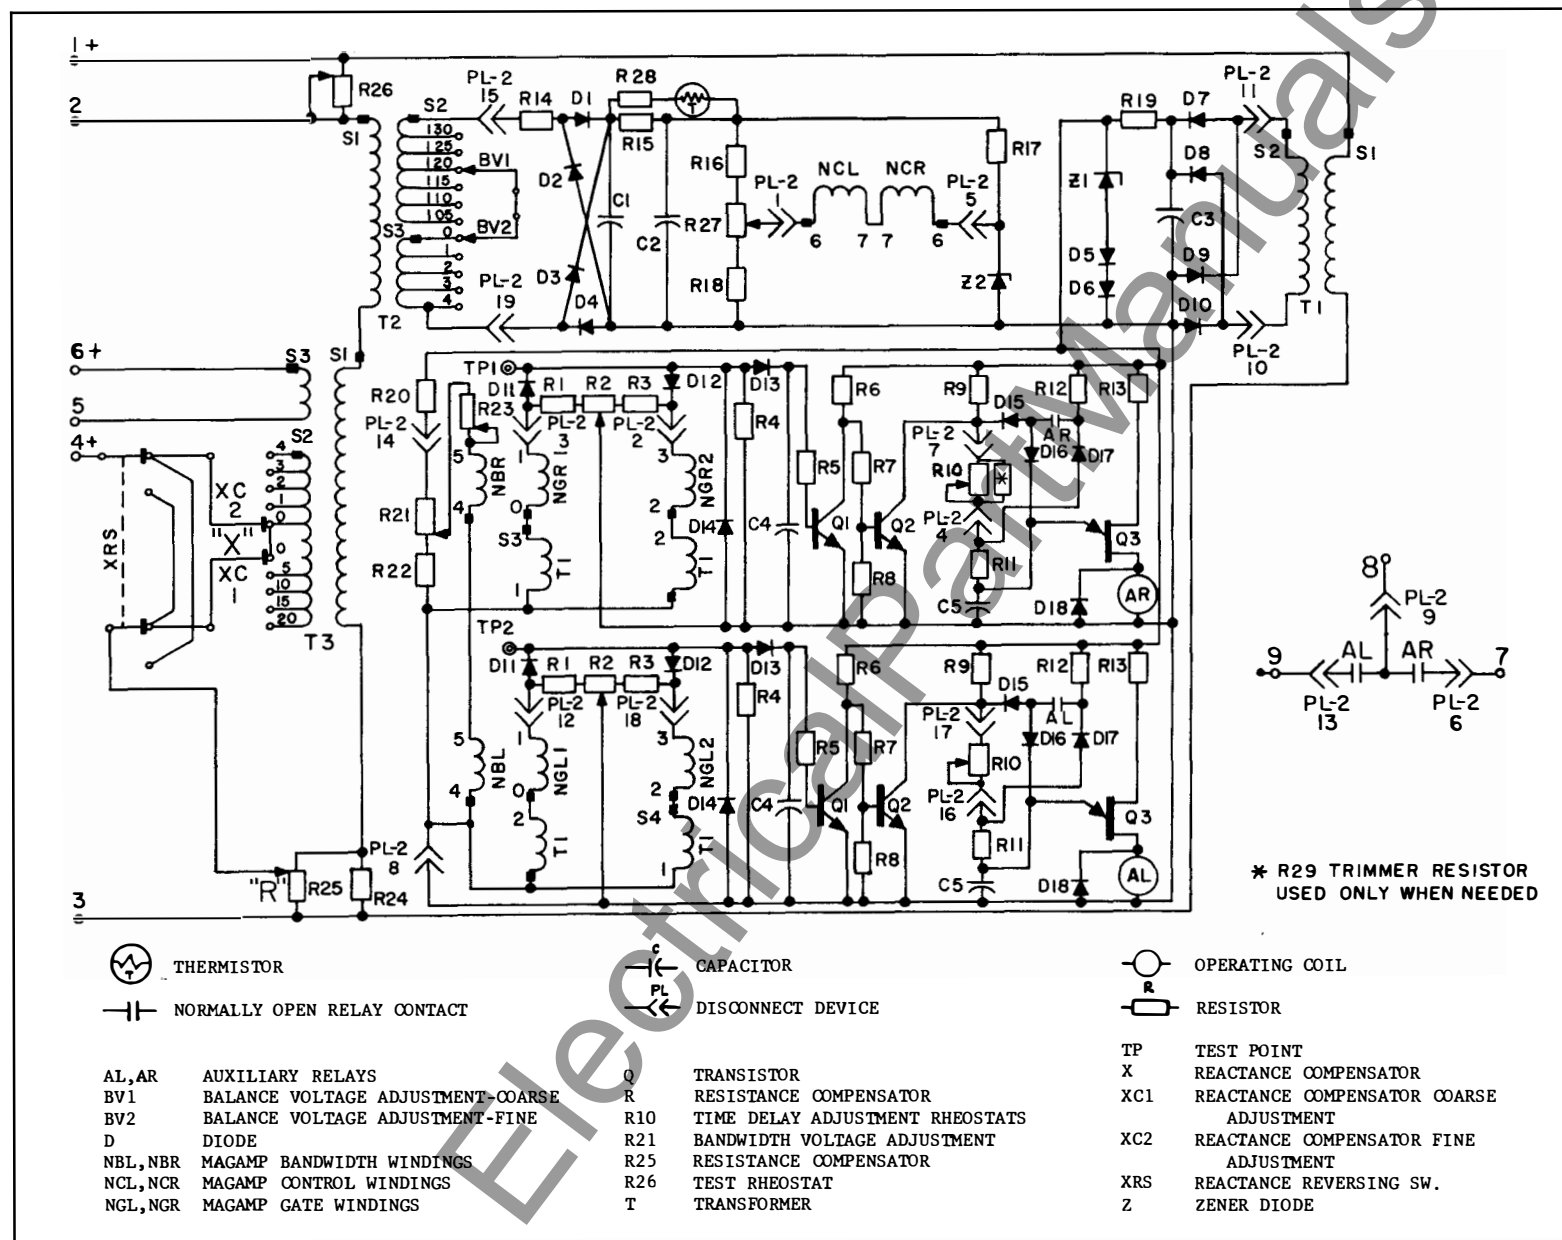

Fig. 2 Type SVC Relay Internal Schematic
Referring to the internal schematic in Figure 2, assume that 120 volts is applied to terminals 1 and 3. This voltage is then
2. Refer to schematic and detail wiring diagrams, figures 2 and 3, to identify and lo-
Make set-up as described in section 1 under "ADJUSTMENT". Measure voltages between the points as listed below. The points may be identified by reference to figures 2 and 3. In the case of DC measurements, the positive point is given first: